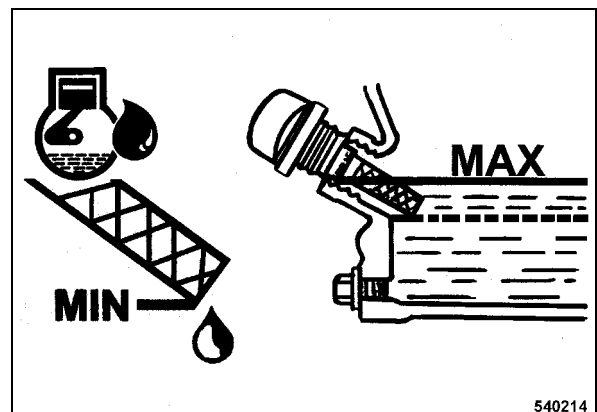

Fig. 39
- The oil level must reach the bottom edge of the filler bore (Fig. 39), top up if necessary.